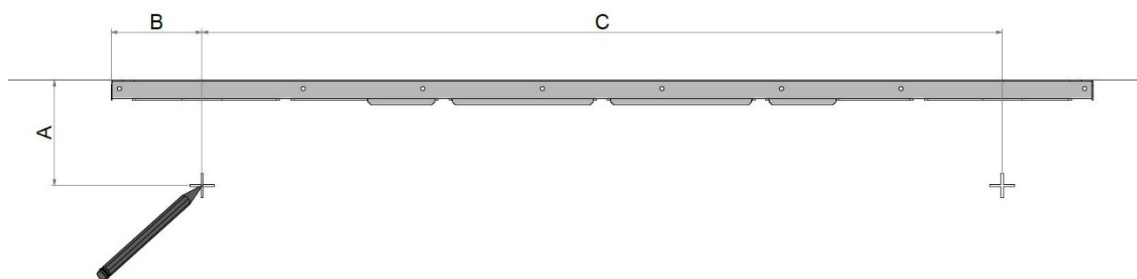

Figure 15: Mark drill holes for the ducts
2. Mark the center of the duct holes, see Figure 15 and Table 9.